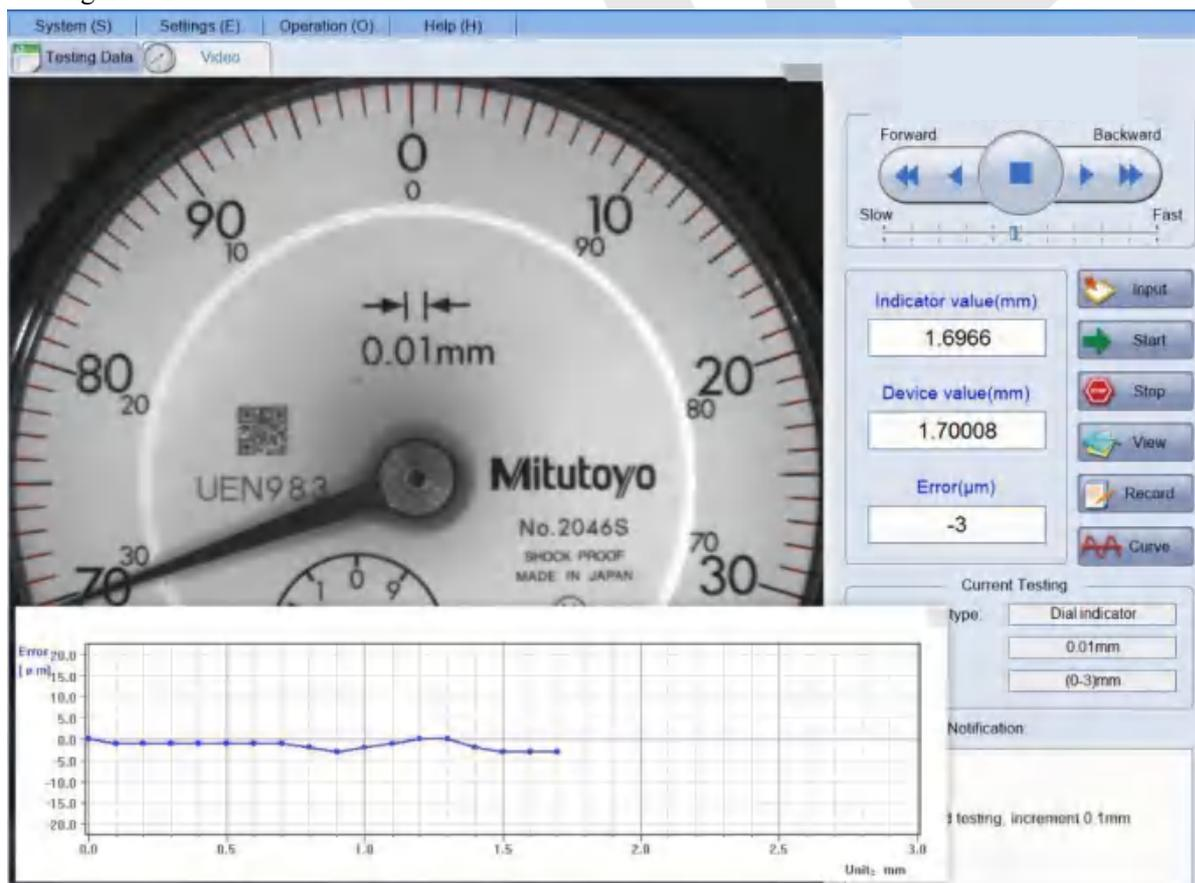

Figure 5-10 Measuring dial gauge with graduation of 0.01 mm
- Click the “Start” button to start the automatic recognition of “0” as the beginning of the measurement. You can click the “Show curves” button to display the error curves in real time. See figure 5-10.